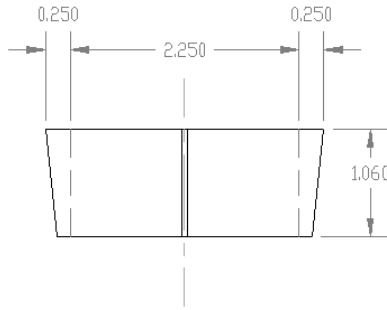

Figure 14-38: The edited valve part.
7. Save your drawing. It should look like Figure 14-38.